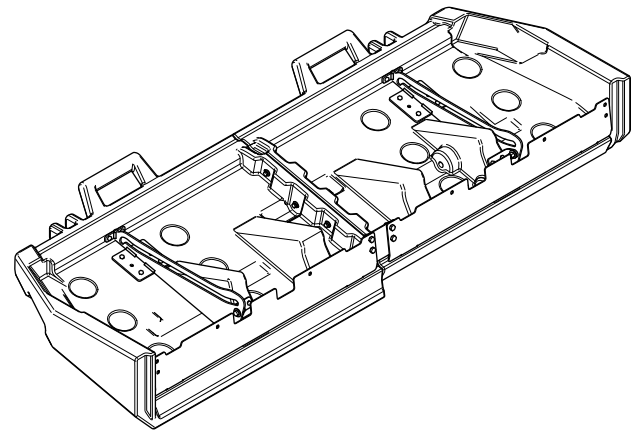
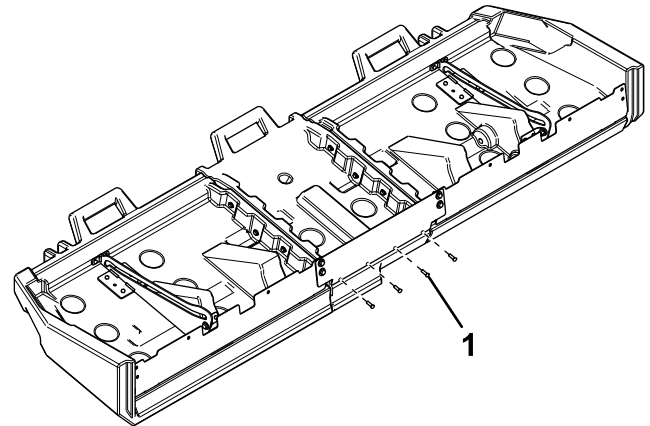

Figure 9
Figure 10
- With the cover upside-down, center the middle material shield with the center of the cover (Figure 9). For VBX 8000/9000 spreaders, secure the middle material shield to the cover using 4 lag screws (Figure 10).
- Adjust the outer material shields so the tracks are centered in the shield cutouts (Figure 9 and Figure 10).